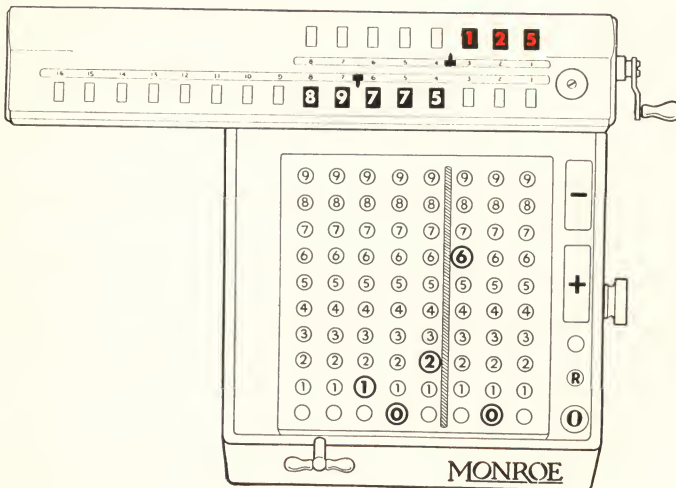

Figure 15
*Step 4*—Upper dials show in red .125, rate of discount, lower dials show 89.775000 or \$89.78, net of invoice, and keyboard shows 102.60, gross of invoice. See Figure 15.